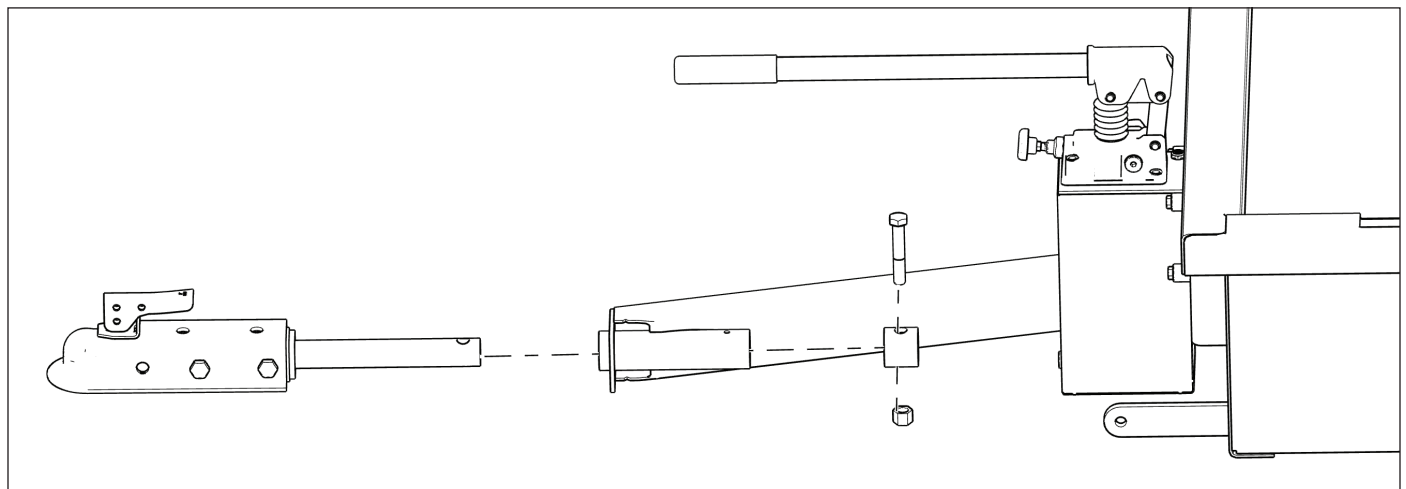

Figure 3 - Insert Ball Coupler into Dump Trailer tongue and secure with spacer and hardware. Jack stand and portion of tongue removed for illustration purposes.
4. Insert 2" Ball Coupler into dump trailer tongue (see **Figure 3** below).